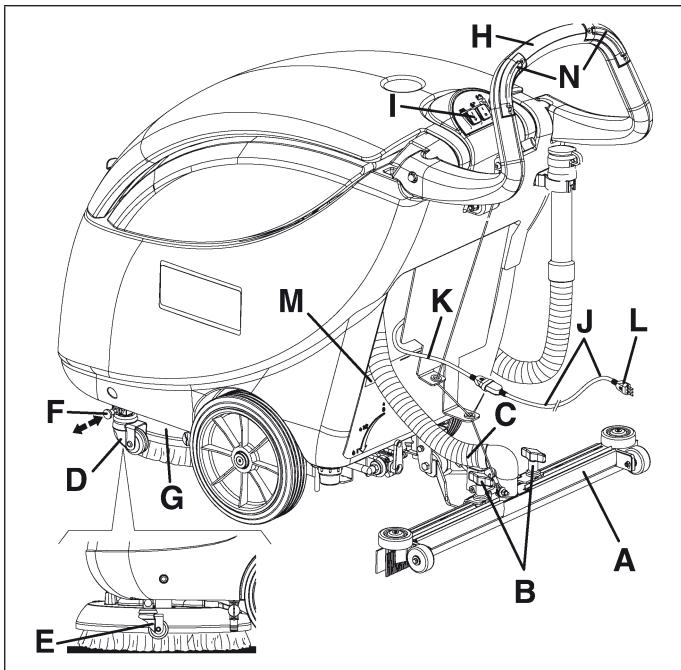

Figure 5
1. Install the squeegee (A, Fig. 5) and fix it by means of the squeegee knobs (B), then connect the vacuum hose (C) to the squeegee.
3. Deactivate the transport/parking device (D, Fig. 5) by putting it in position (E) after inserting the relevant pin (F).
4. Lift the brush cover (G, Fig. 5) by prying the handlebar (H).
7. Connect the extension (J, Fig. 5) with the power supply cable (K). Connect the extension plug (L) to the electrical mains.
Before connecting the machine to the electrical mains, make sure that the frequency and voltage shown in the serial number plate/technical data (M, Fig. 5) match the mains voltage.
8. Turn the brush/pad rotation switch (I, Fig. 5) to the "I" position; then hook the brush/pad-holder by pressing for a few seconds one or both switches (N, Fig. 5).